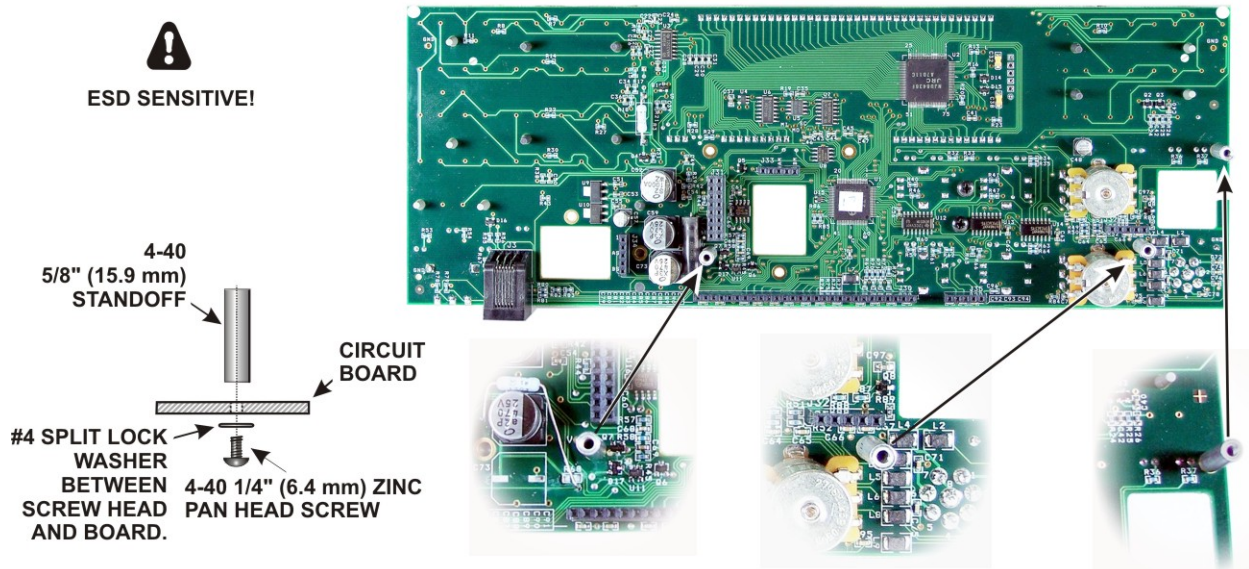

Figure 6. Preparing the Front Panel Board for Mounting, Part 1.
- Mount three standoffs on the back of the front panel board as shown in Figure 6. Place the lock washer between the screw head and the board as shown.
- Three 4-40 5/8" (15.9 mm) standoffs are mounted on the back as shown in Figure 6.